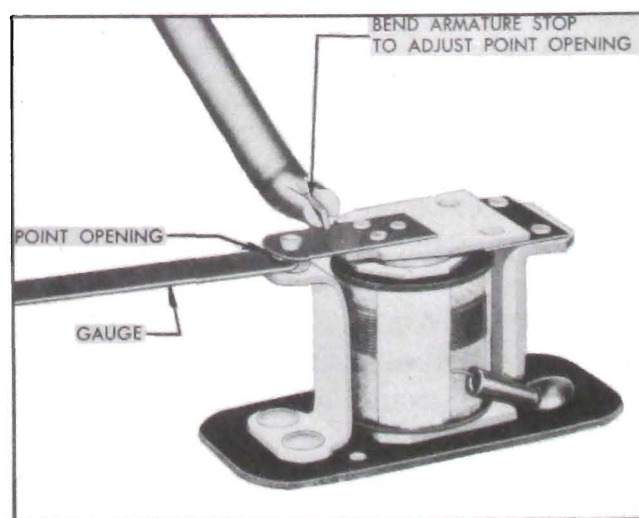

Figure 10-77—Relay Contact Point Adjustment
3. With armature free, check contact point opening, using feeler gauges. Point opening should be .025". Adjust opening to .025", if necessary, by bending the upper armature stop. See figure 10-77.